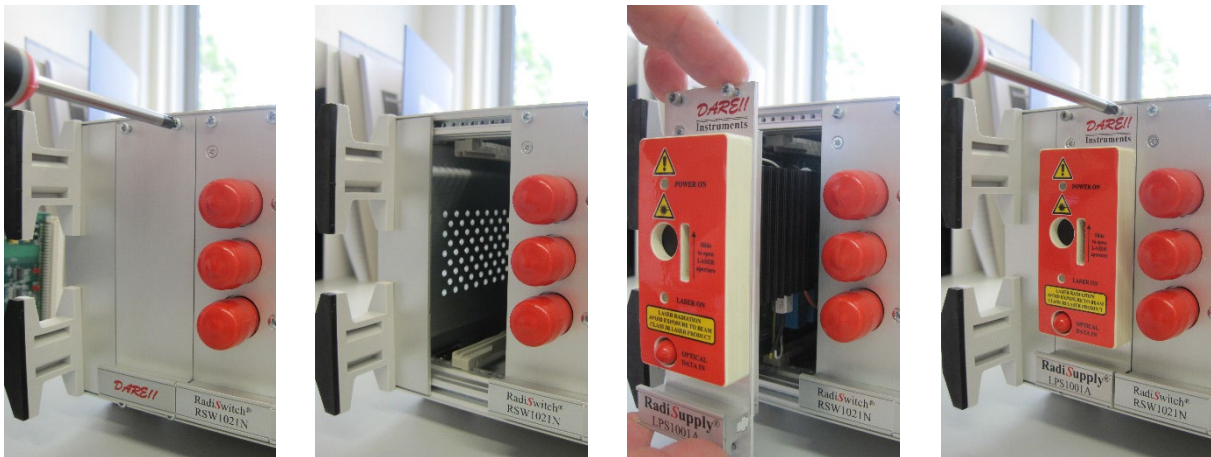

Figure 1: Example of a (RadiSupply® LPS1001A) plug-in card installation
2. Remove the blind panel from this slot by removing the four screws of the panel (two on top and two at the bottom). See Figure 1.
3. Gently insert the plug-in card into the slot of the RadiCentre® and reinsert the four screws. See Figure 1.